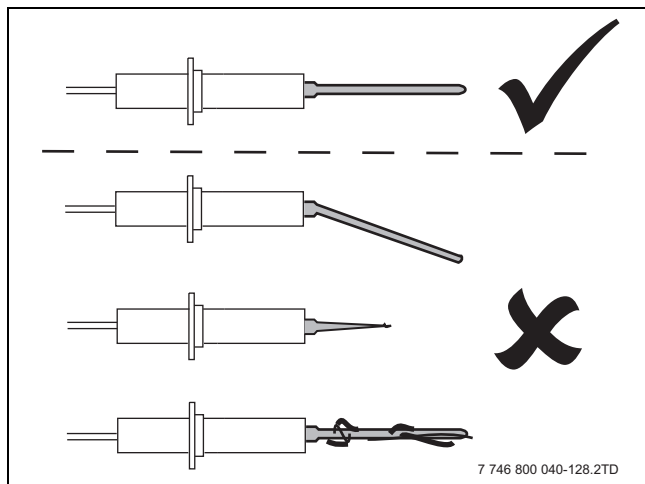
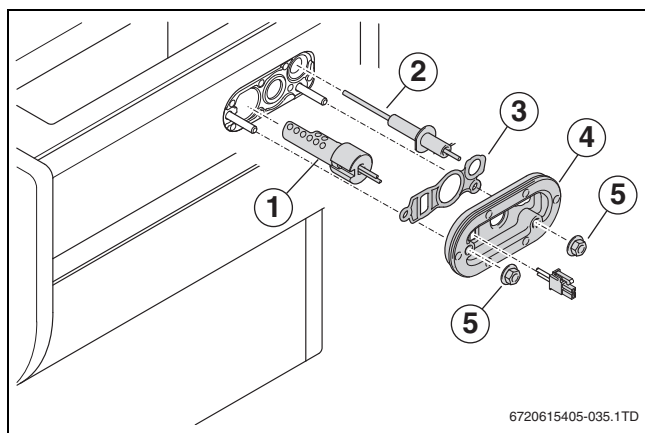

Fig. 88 Checking the ionization electrode
Fig. 89 Replacing the ignition unit
- ▶ The rubber seal (→ fig. 89, [3]) and the cover plate with seal (→ fig. 89, [4]) need to be replaced every 4 years.
- ▶ Check the individual components of the ignition unit (→ fig. 89) for wear or contamination (→ fig. 88).